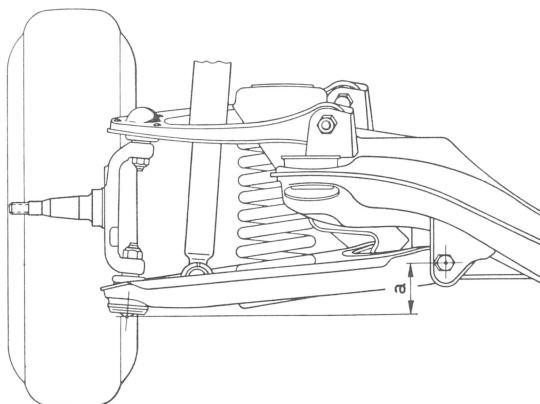

Fig. 1
1 Check control arm position on front axle with measuring instrument (50) (Fig. 1 and 2).